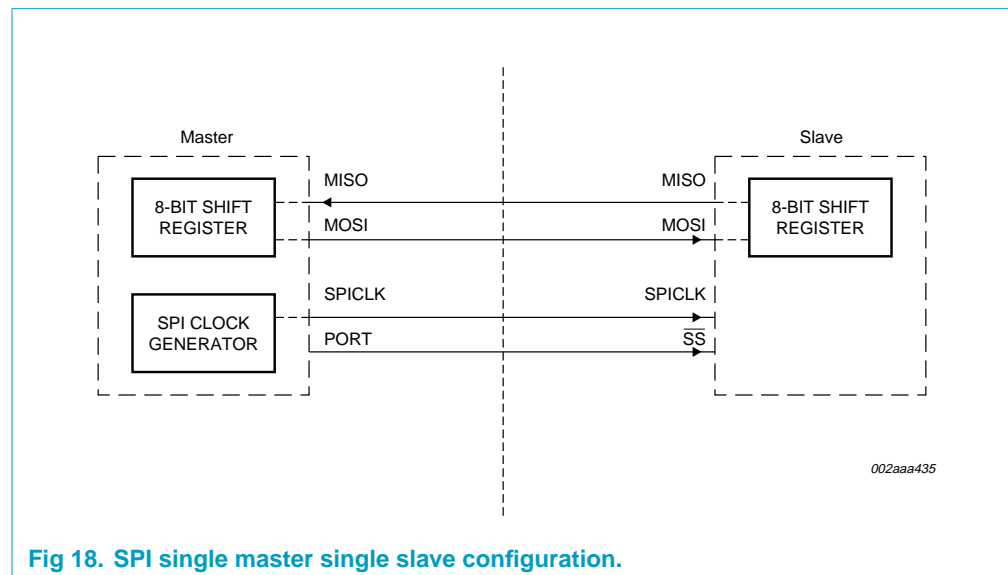

Fig 18. SPI single master single slave configuration.
Typical connections are shown in Figure 18, 19, and 20.
- The 89LPC913 does not have the slave select pin,  $\overline{SS}$ . The SPI interface is set to Master mode and an I/O pin may be used to implement the  $\overline{SS}$  function. Typical connections are shown in Figure 18 and 19.